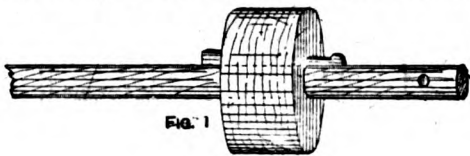

FIG. 1
**How to Make a Pencil Marking Gauge.**—This tool is not generally found among woodworkers' tools, but if it were more adopted it would be found an advantage over the common rough way of using the fingers and pencil as a gauge. It will be seen from the figures that there are several ways of making the tool. Any hard wood will do for making this gauge, but beech is preferable. A piece of wood about 1 ft. long and 1 in. thick (see Fig. 1) should be chucked in the lathe for the stem of the gauge. This is carefully turned to  $\frac{1}{2}$  in. in diameter, except the end nearest the back poppet centre, which is left a trifle thicker than  $\frac{1}{2}$  in., so that the head of the gauge may be turned on it. For the head a piece of wood 3 in. square and  $\frac{1}{2}$  in. thick will be required; two lines drawn from the corners will determine the exact centre of the block. At the centre on one side of the head a hole should be bored  $\frac{1}{2}$  in. in diameter with a sharp centre-bit half through; the block is then turned over, and the other half bored; this ensures the hole being true. The corners should be cut off the block, so that it may be more easily turned; it is then fixed tightly on where the stem was left thicker; it should be a tight fit. The head should now be turned, so that when finished it is just  $\frac{1}{2}$  in. in diameter. To improve its appearance, the sides of the head may be polished while it revolves in the lathe; but before this is done the top and bottom of the head should be turned